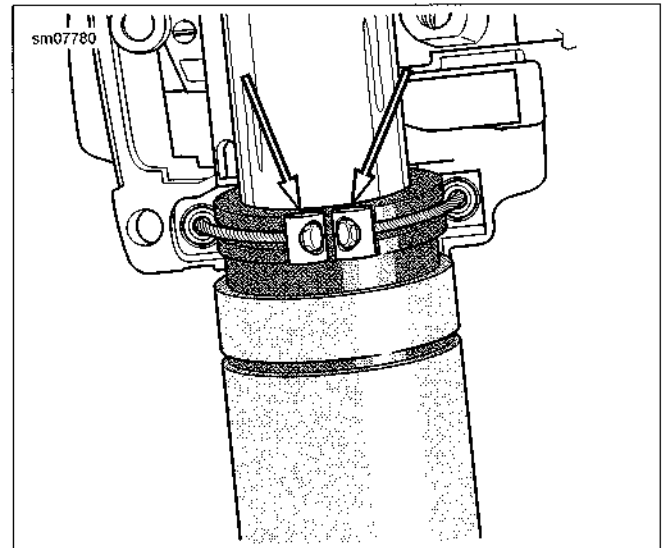

Figure 6-118. Throttle Cable Ferrules
- See Figure 6-118. Connect cables: